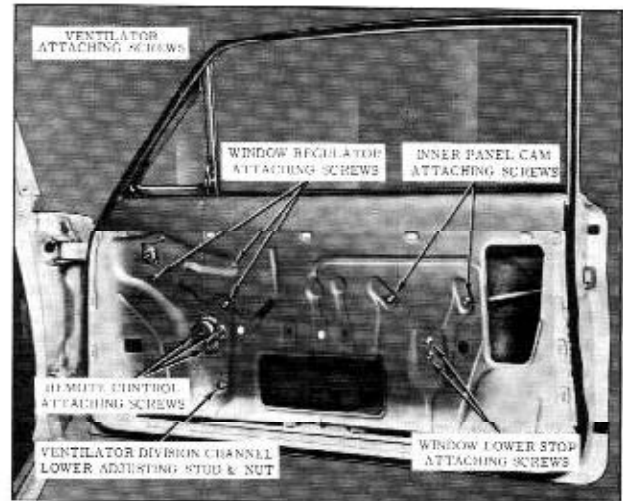

Fig. 15-17 Front Door Hardware Attachments
2. Remove two inner panel cam attaching bolts. (Fig. 15-17)
2. On "17" and "27" styles, remove inner panel cam. (Fig. 15-17)
5. Remove regulator attaching screws and work regulator rearward to disengage arm from lower sash channel cam and remove regulator from door. (Fig. 15-17)